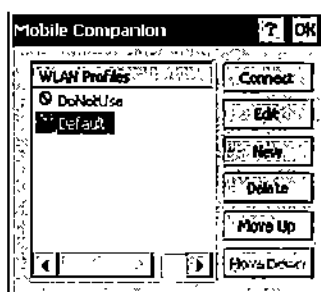

Figure C-10. WLAN Profiles
2. Tap on the task tray icon and select *WLAN Profiles* from the *Mobile Companion* menu. When the *WLAN Profiles* window initially displays, two profiles appear in the *WLAN Profiles* list box. See Figure C-10.